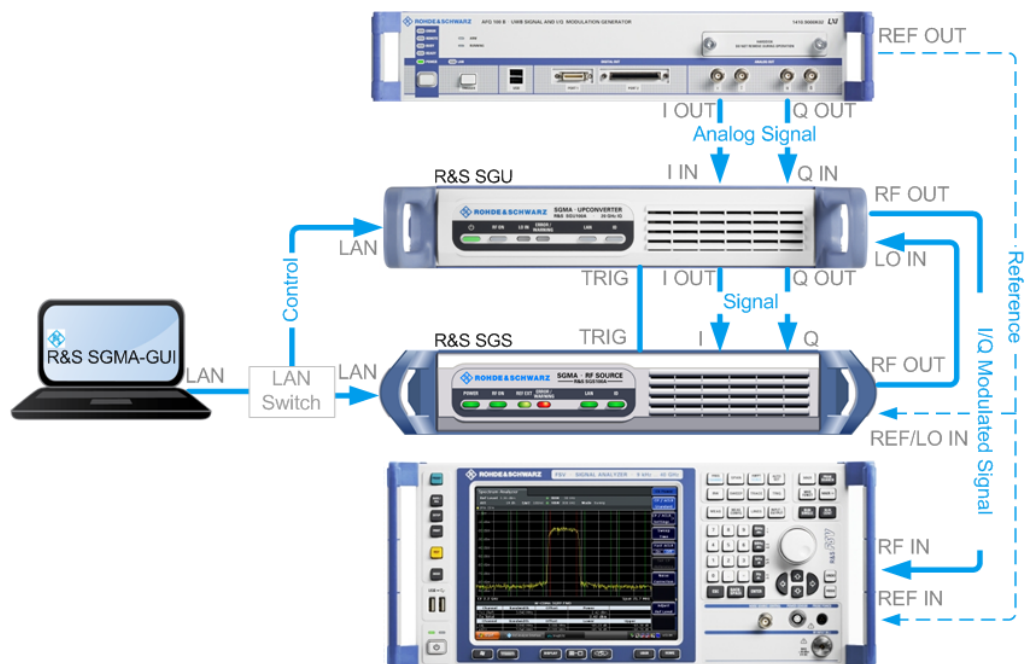

Fig. 9-1: Example of the test setup
The figure 9-1 shows an example of the test setup.
1. Connect the test equipment as shown on figure 9-1: